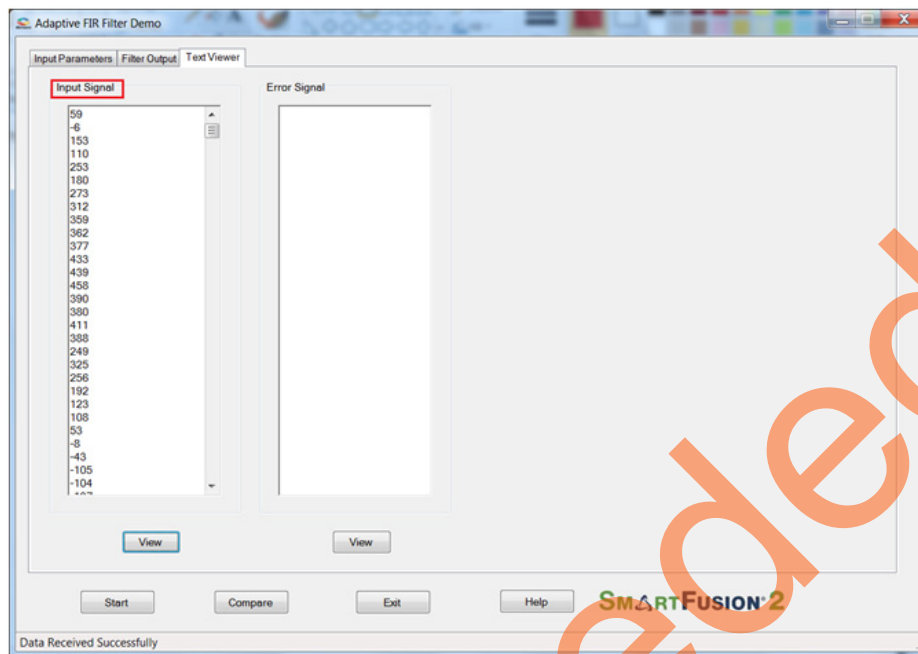

Figure 29 • Text Viewer: Input Signal Values
16. Figure 29 shows the **Text Viewer** tab showing the **Input Signal** values.